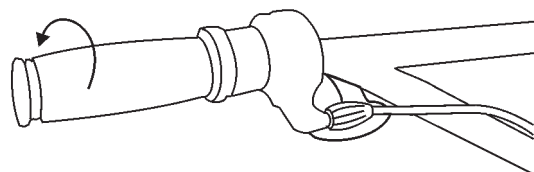

Figure 23. Throttle (Idle Position)
2. Rotate the **throttle** (Figure 23) to the "idle" position.